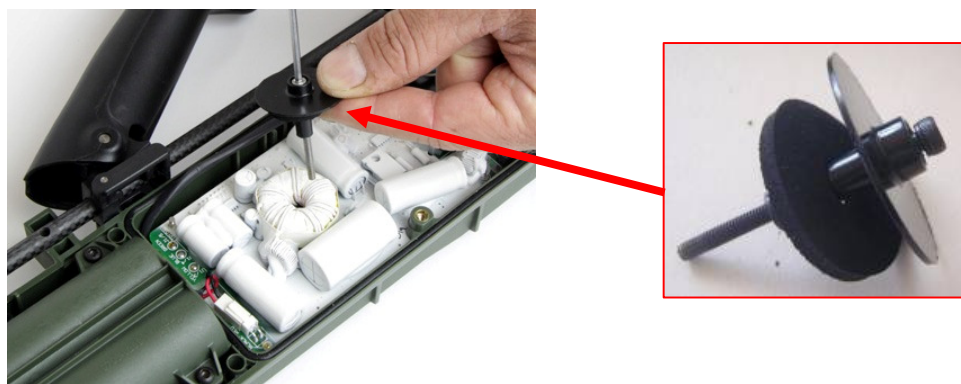

Figure 42: Screw Toroid
- Fit the screw toroid as shown in Figure 42.